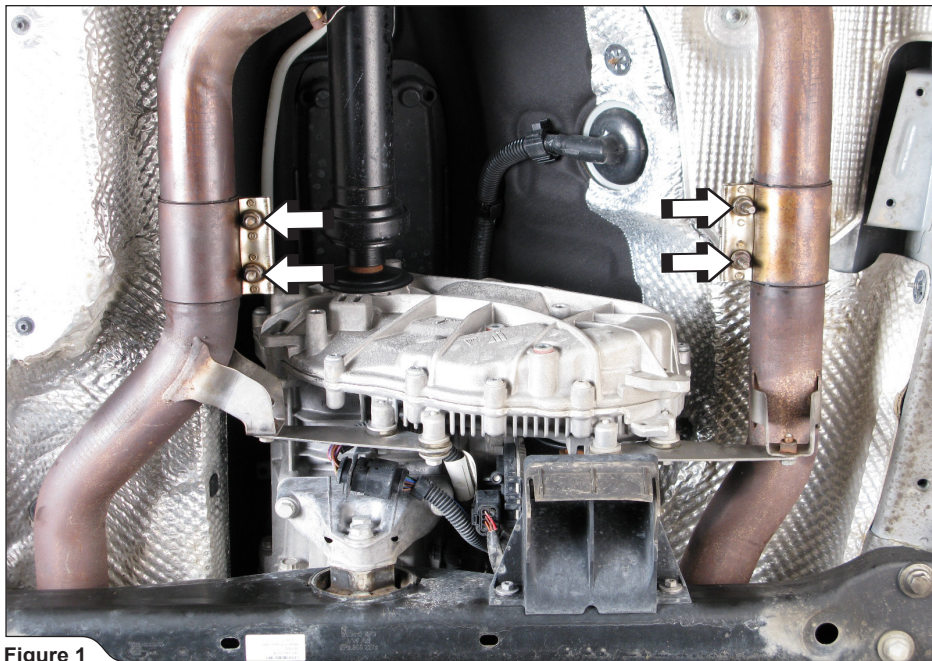

Figure 1
3. **For both systems:** loosen the marked double clamps' nuts, unscrew the rubber bracket and carefully remove the stock middle link pipes off the vehicle (**Figure 1, 2**).